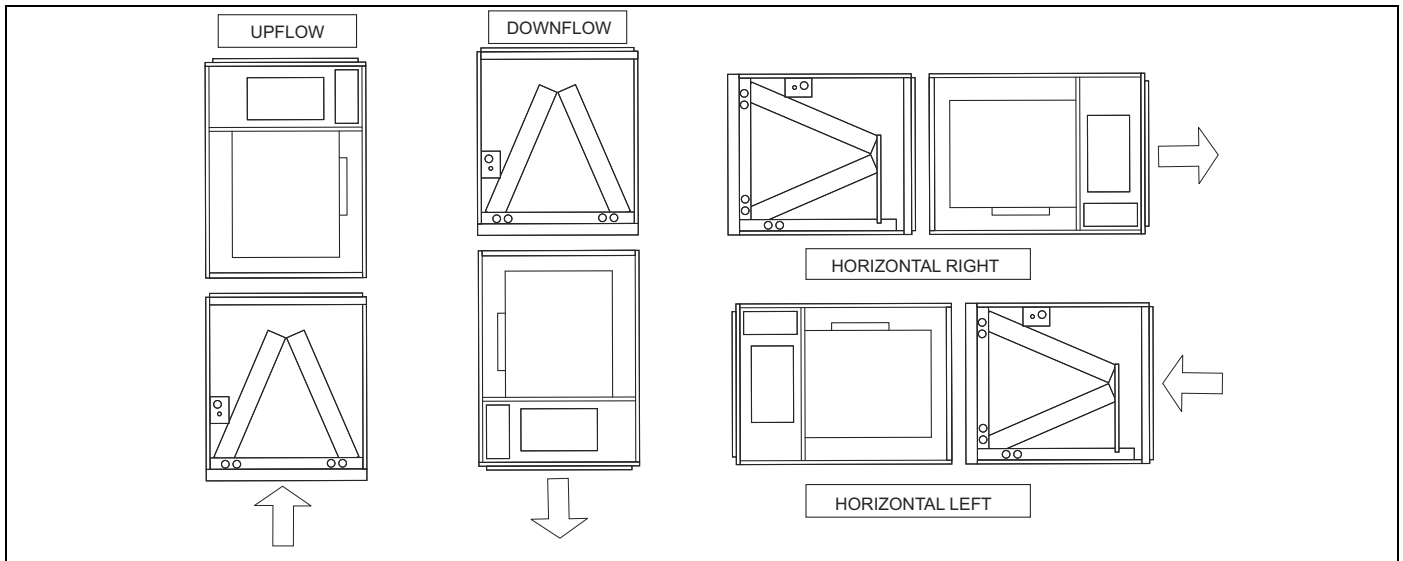

FIGURE 1: Typical Installation with MC or FC Evaporator Coil (MC required for horizontal applications)
If the unit is to be installed with an evaporator coil, refer to Figure 1 for unit positioning information.
7. Fasten duct flanges of coil to duct flanges of air handler with screws. See Figure 1.
8. Fasten duct flanges of coil to base of air handler with screws. See Figure 1.